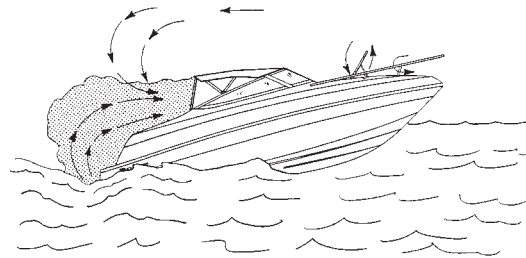

Figure H3: Backdrafting - Air flows over boat and behind transom.
Backdrafting or the "station wagon effect" is caused by air movement over or around a boat creating a low pressure area of suction area around the stern which can increase CO level on the boat. Backdrafting can be affected by relative wind direction, boat speed, and boat trim angle. See Figure H3 Backdrafting - Airflows Over Boat and Behind Transom".
3. Canvas Configurations - Under various conditions, adding or removing canvas may raise or lower CO levels. See Figures H3, H4 & H6.